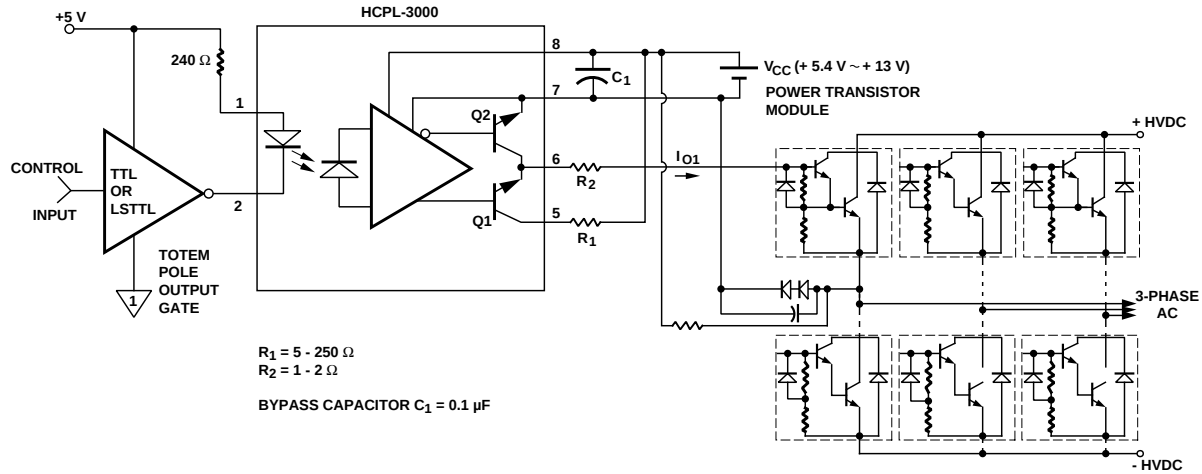

Figure 1. Recommended Output Transistor Protection and Typical Application Circuit.
THE USE OF A 0.1 μ F BYPASS CAPACITOR CONNECTED BETWEEN PINS 8 AND 7 IS RECOMMENDED. ALSO, CURRENT LIMITING RESISTORS ARE RECOMMENDED (SEE FIGURE 1, NOTE 2, AND NOTE 7).
amounts of current. Figure 1 describes a recommended circuit design showing current limiting resistors R₁ and R₂ which are necessary in order to prevent
- R_1 sets the base current (I_{O1} in Figure 1) supplied to the power bipolar device. R_2 limits the peak current seen by Q2 when the device is turning off. For more applications and circuit design information see Application Note "Power Transistor Gate/Base Drive Optocouplers."